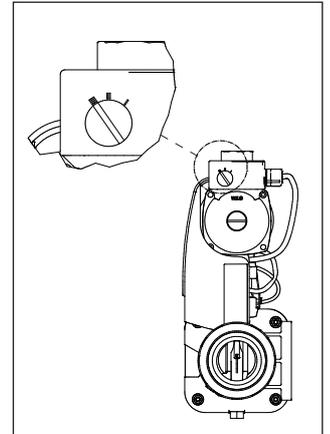

Figure 9. Power setting selector
3. Set the highest power output on the Aqua-Mex FE circulation pump (by turning the handle to position III), see figure 9.
5. Start the unit by pressing the on/off button (C).